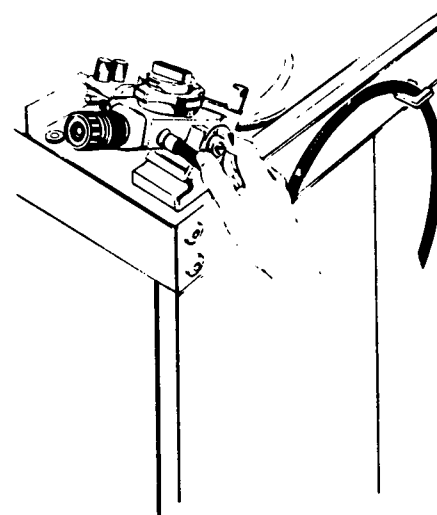

Figure 2-7. SECURE SCOPE OPERATING HEAD.
7. Turn the clamp designated "2" clockwise until it is resting against the side of the operating head. See Figure 2-7.